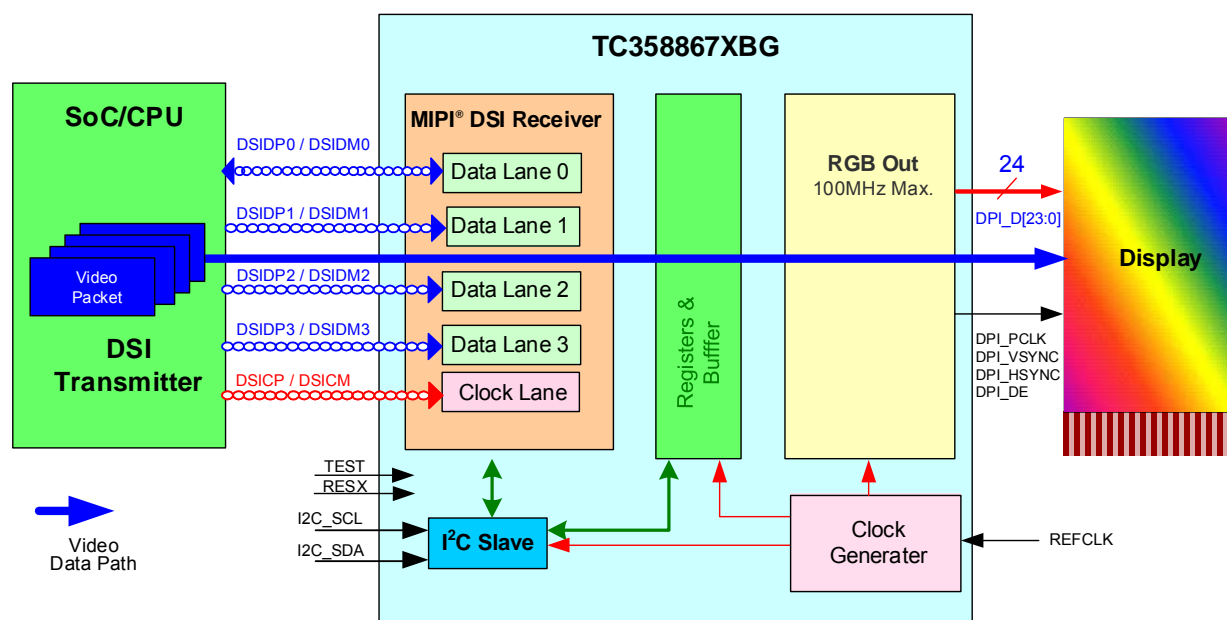

Figure 1.3 System Overview with TC358867XBG in MODE_S2P Configuration
- **Mode_S2P:** A system configuration where TC358867XBG may typically be used is shown in Figure 1.3. In this mode, DisplayPort™ output is not used and the chip rather behaves as a DSI to RGB convertor. In this system, TC358867XBG could be connected to a single display. In this configuration, the TC358867XBG can support displays with resolution up to WXGA (1280x800 or 1366x768). Maximum output PCLK is 100MHz. Video stream source is from DSI Host.